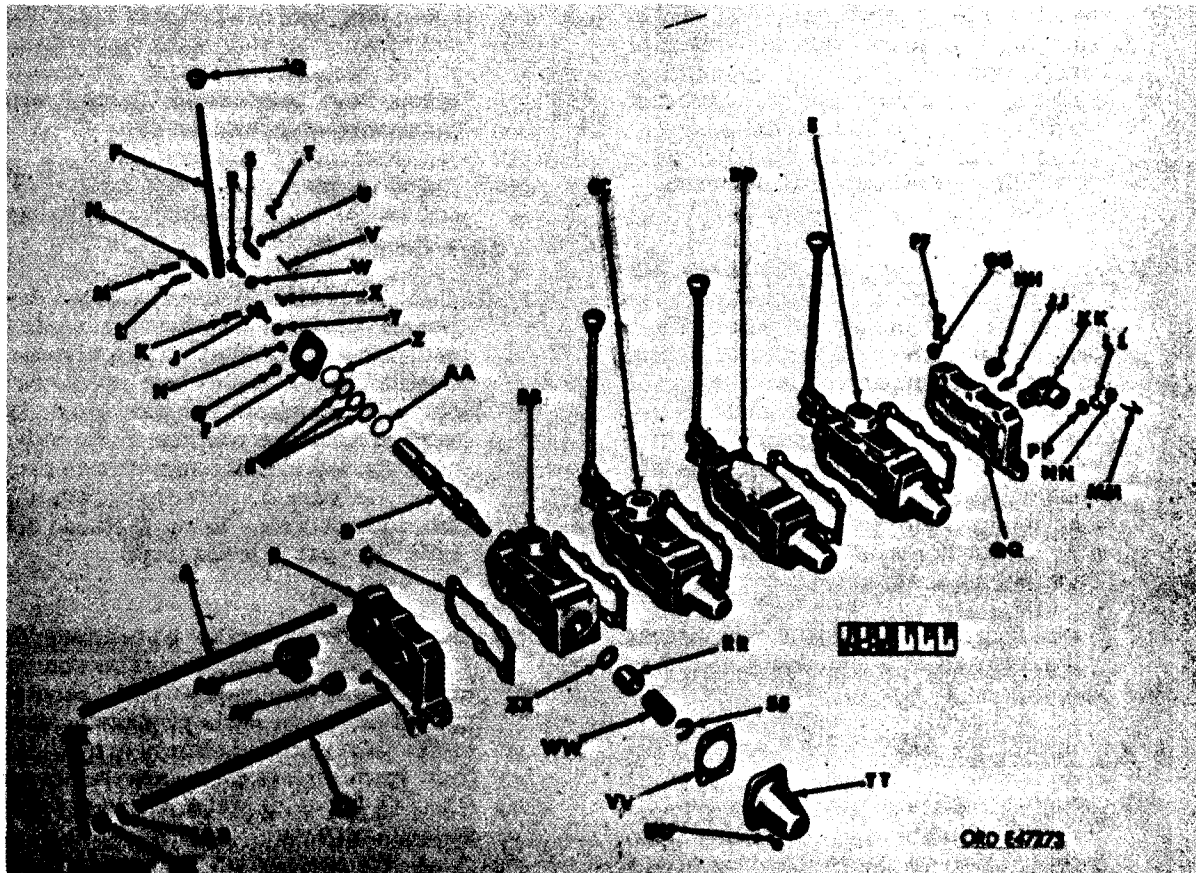

Figure 482. Control valve bank assembly - exploded view
- (c) Install control valve end cover (TT) and gasket (VV), and secure with four cap screws (UU).
- (3) Assemble control valve bank assembly (fig. 482). The assembling of the control valve bank assembly will require special attention so as to place control valves in the same position in the valve bank from which they were removed. When these units were originally assembled, precompressed gaskets were used. To accomplish this in the field, the following steps must be taken. Place control valve body gasket (C) between each control valve and the control valve bank end covers (B and QQ). Insert the five valve body tie rods (A) and one drilled valve body tie rod (ZZ) through the complete assembly, and secure tie rods at each end with 12 tie-rod washers (AB) and hex-nuts (AC and LL). Alternately tighten nuts on ends of tie rods so that control valve bank assembly will be drawn up evenly. Tighten two center rods to 85 pounds-feet of torque and 120 pounds-feet for the four end rods. Allow valve bank to set overnight and then check nuts to see if nuts are still at previous torque setting. Install five palnuts (AE and NN) to each end of tie rods and wire seals (AD and MM) to ends of drilled valve body tie rod (ZZ). If the two pipe plugs (HH and AF) were removed coat each with a hardening type sealing compound (Litharge or PermatexNo. 1) and install into valve bank end covers.